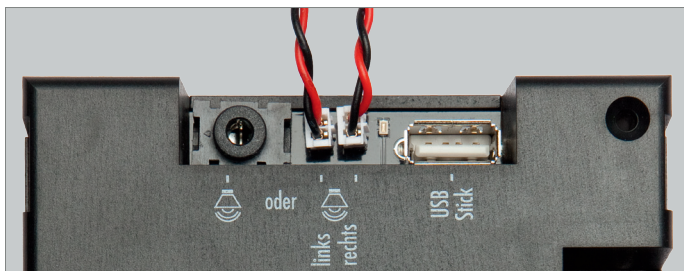

Fig. 3: Connecting loudspeakers
- ▶ Connect the loudspeakers, see Fig. 3.
- ▶ Plug the jack in, see Fig. 3.